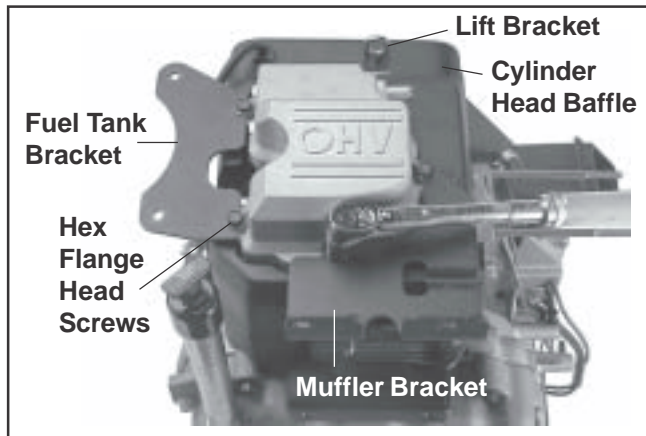

**Figure 11-43. Valve Cover Sealant Pattern.**
2. Apply a 1/16" bead of sealant to the cylinder head as shown in Figure 11-43.